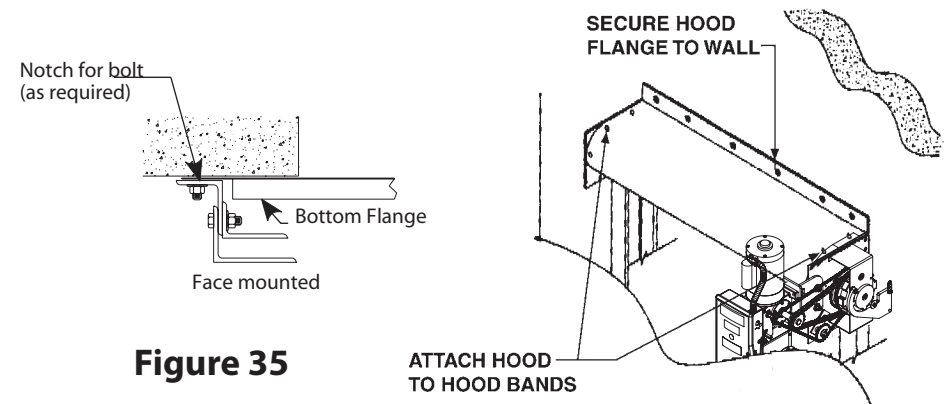

Figure 35
- Attach the hood to hood bands and hood support with 1/4" dia. by 3/8" long tapping screws; longer screws may prevent door closure. Use four screws on each hood band and support. See Figure 35.